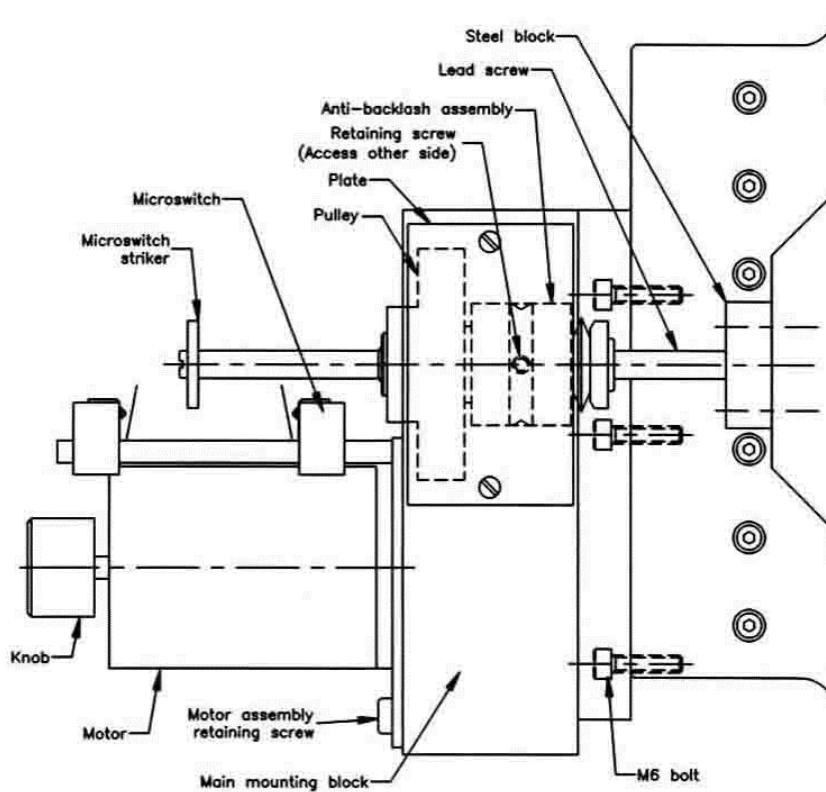

Figure 3 - Motor on the T108, T208 and T211 tables
2.4.2 Motor installation (T108, T208 and T211 tables) (Refer to fig.3)